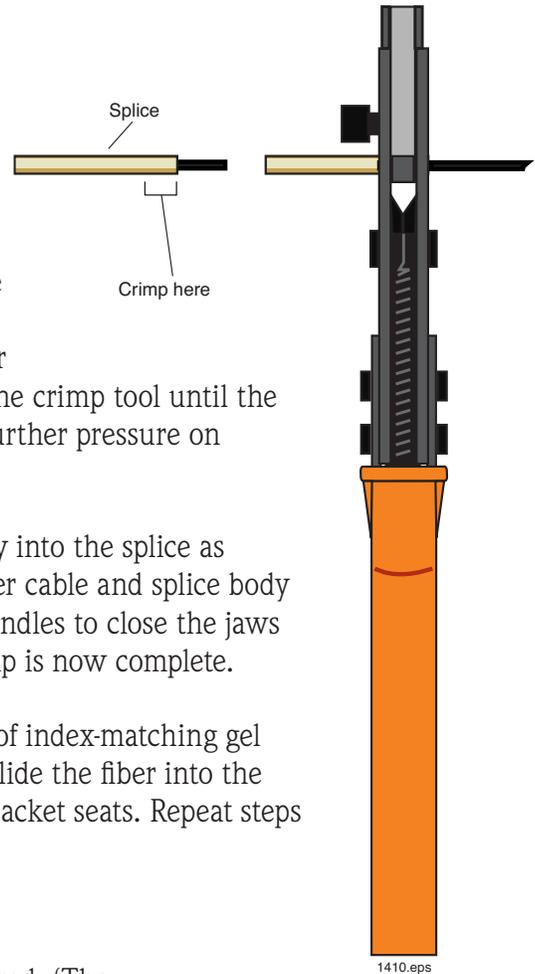

Figure 29
13. Make sure the fiber cable is still pushed completely into the splice as shown in Figure 29. While making certain the fiber cable and splice body do not move out of position, slowly squeeze the handles to close the jaws until the tool bottoms and springs open. The crimp is now complete.